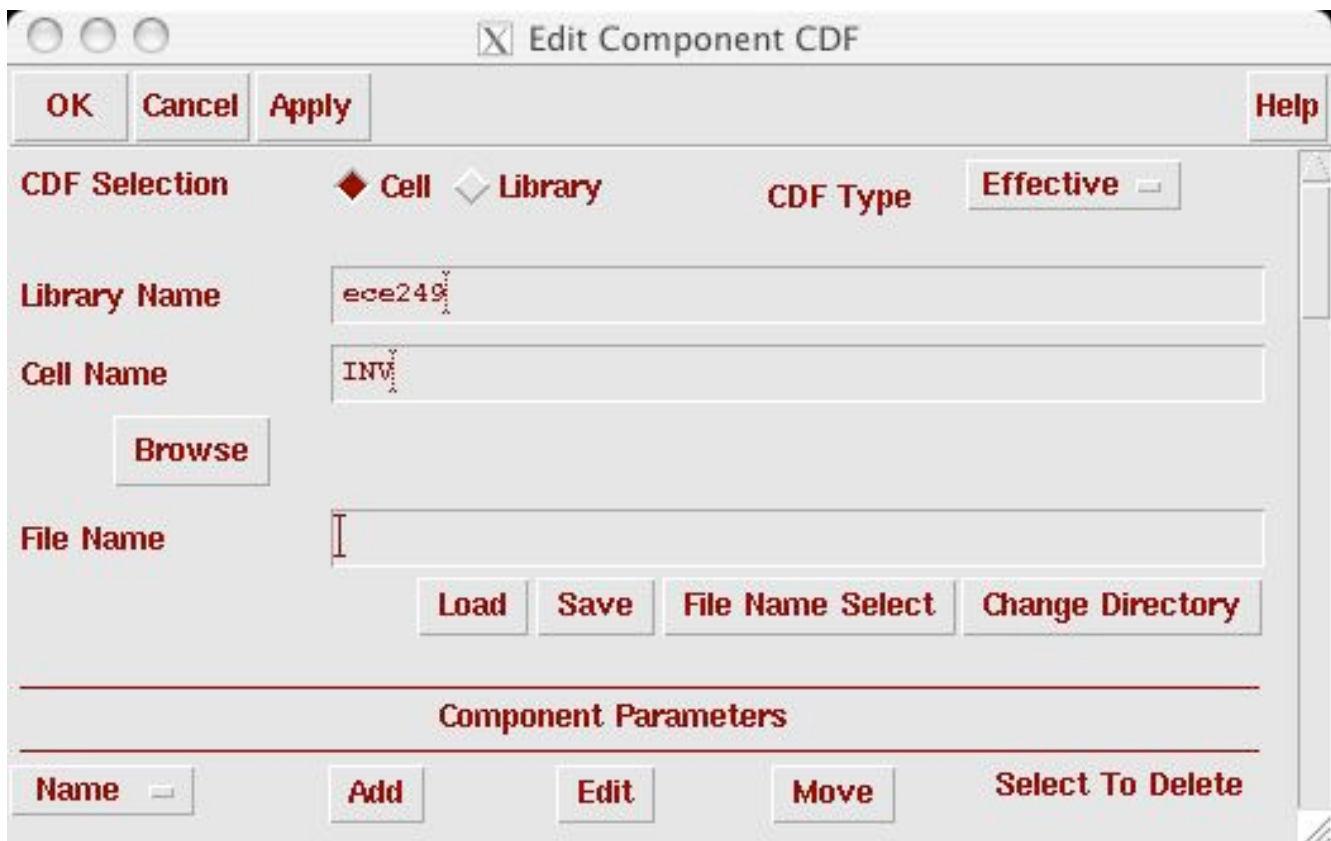

Figure 1. Edit Component CDF window
Step 1: Start **icfb** and in the **CIW** window go to **Tools... → CDF... → Edit**. An **Edit Component CDF** window will open up. Fill it in as shown in Figure 1. The Cell Name should be the same as the name you used in Lab 1.